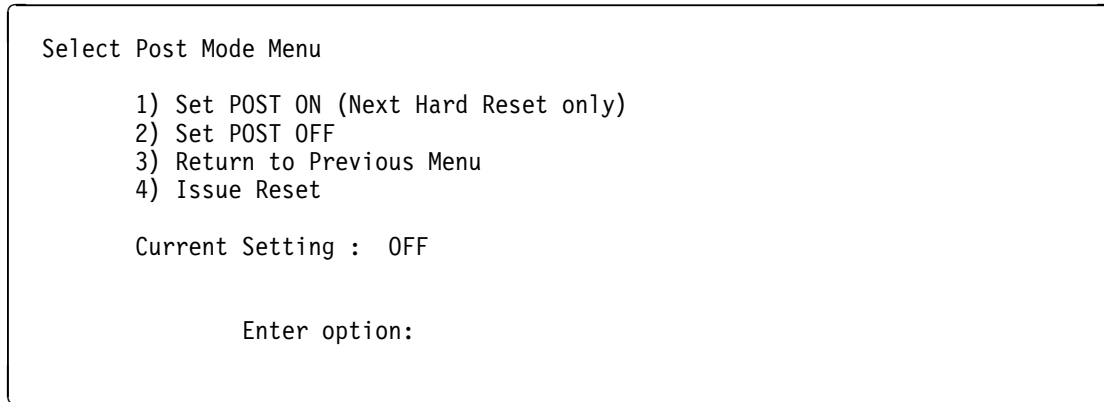

Figure 4-7. Post Mode Selection Panel
2. A menu listing the following options is displayed (see Figure 4-7).